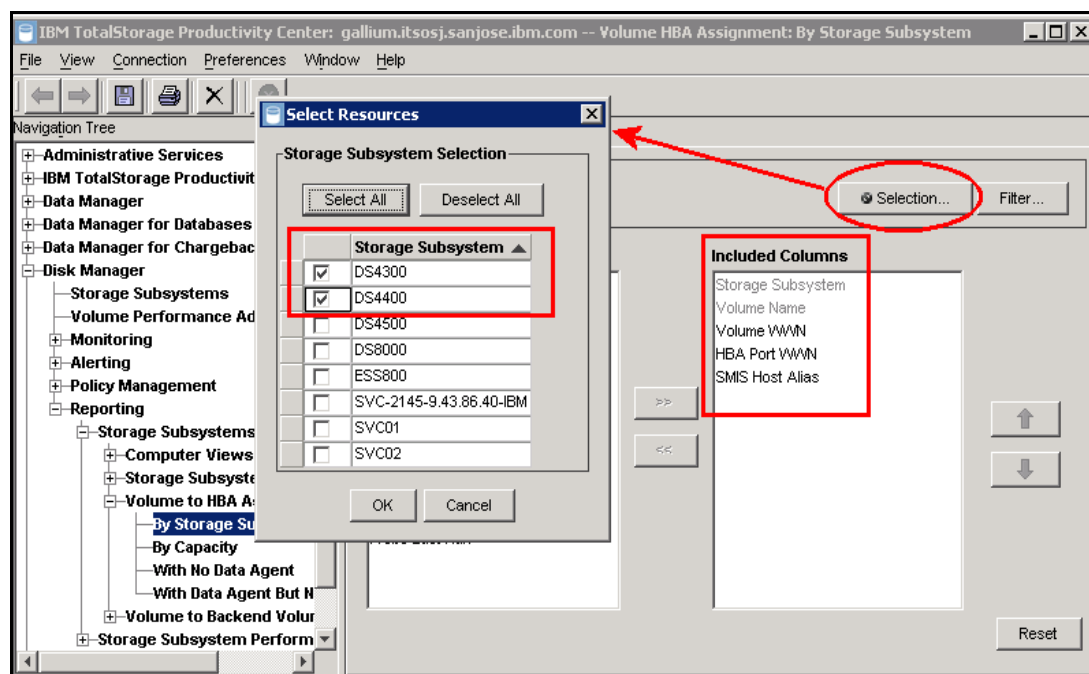

Figure 7-39 Volume to HBA assignment, select storage subsystems
1. Expand **Disk Manager** → **Reporting** → **Storage Subsystems** → **Volume to HBA Assignment** → **By Storage Subsystem**. Remove unnecessary information from the Included Columns into Available Columns, and click **Selection** to select the storage subsystems for which you want to create this report. In our example, we only include Volume WWN, HBA Port WWN, and SMI-S Host Alias, and selected one DS4300 and one DS4400 among the list of storage subsystems known to our TPC environment. This is shown in Figure 7-39.